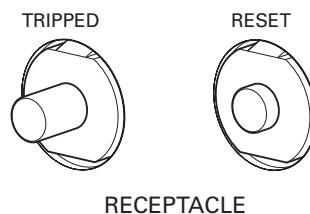

Fig.11
The receptacle circuit breakers protect the receptacles. Overloading the generator will trip the thermal circuit breaker. If an individual thermal breaker selector switch (C) moves to the tripped position as shown in Fig 11 disconnect the electrical load from the receptacle. Let the circuit breaker cool down. Push the individual thermal breaker selector switch (C) to reset.